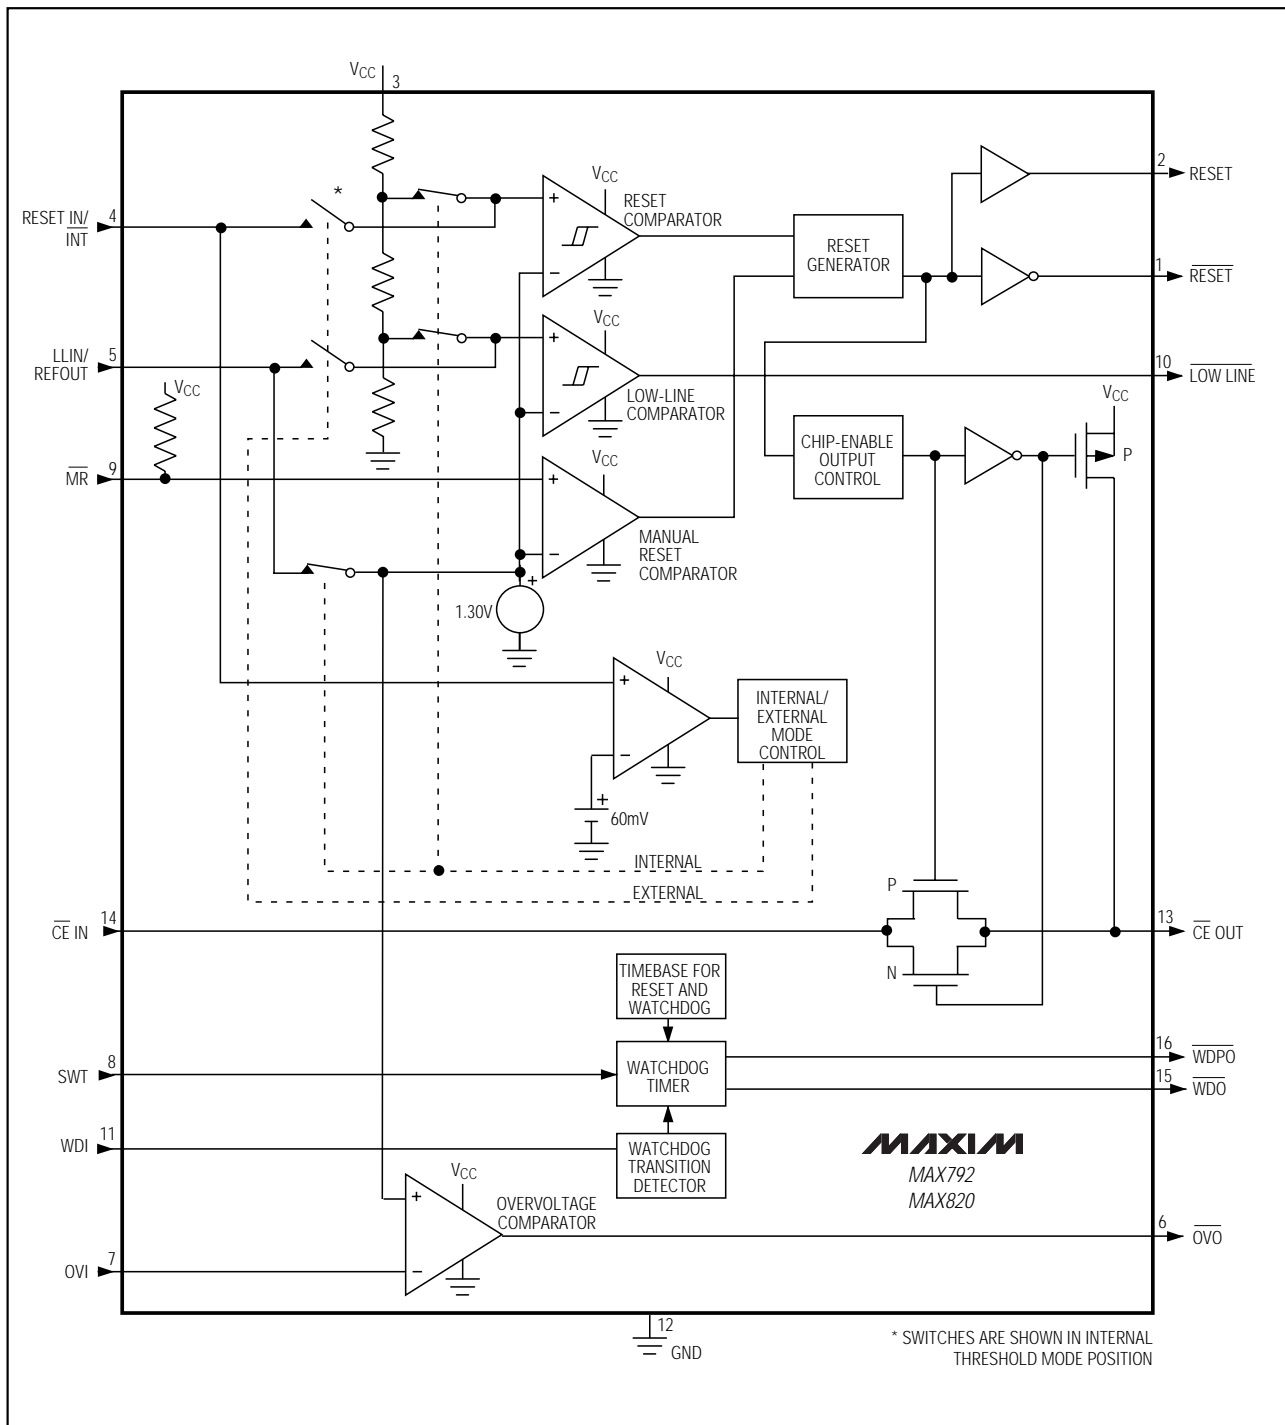
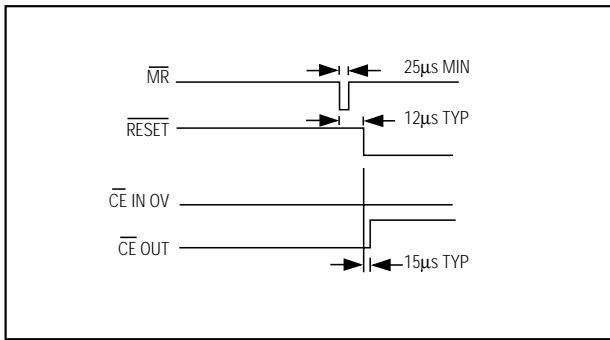
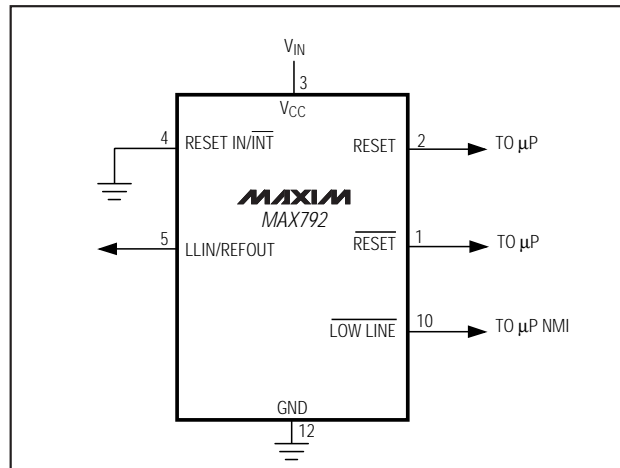
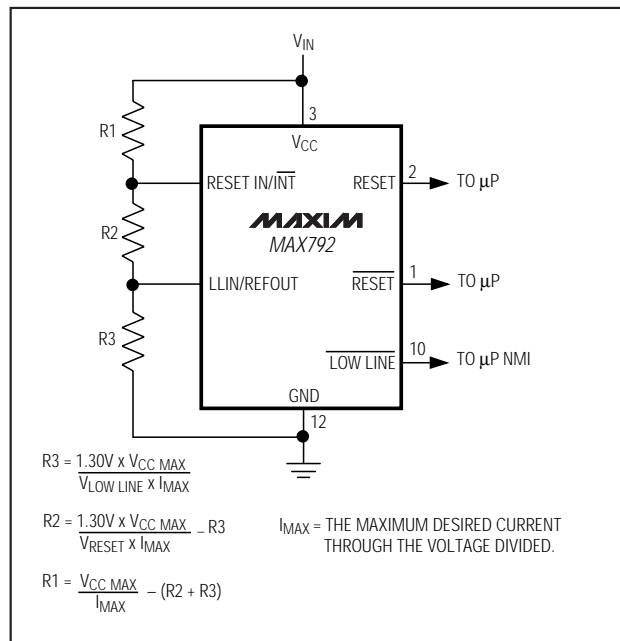

Figure 1. Block Diagram
Figure 2. Manual-Reset Timing Diagram
Figure 4a. Connection for Internal Threshold Mode
Figure 4b. Connection for External Threshold Programming Mode
Many μ P-based products require manual-reset capability, allowing the operator to initiate a reset. The manual/external-reset input ($\overline{\text{MR}}$) can connect directly to a switch without an external pull-up resistor or debouncing network. $\overline{\text{MR}}$ internally connects to a 1.30V comparator, and has a high-impedance pull-up to V_{CC} , as shown in Figure 1. The propagation delay from asserting $\overline{\text{MR}}$ to reset asserted is typically 12 μ s. Pulsing $\overline{\text{MR}}$ low for a minimum of 25 μ s asserts the reset function (see *Reset Function* section). The reset output remains active as long as $\overline{\text{MR}}$ is held low, and the reset timeout period begins after $\overline{\text{MR}}$ returns high (Figure 2). To provide extra noise immunity in high-noise environments, pull $\overline{\text{MR}}$ up to V_{CC} with a 100k Ω resistor.
Connecting the reset-input/internal-mode select pin ($\text{RESET IN}/\overline{\text{INT}}$) to ground selects internal threshold mode (Figure 4a). In this mode, the low-line and reset thresholds are factory preset by an internal voltage divider (Figure 1) to the threshold voltages specified in the *Electrical Characteristics* (Reset Threshold Voltage and Low-Line Threshold Voltage). Connect the low-line output (LOWLINE) to the μ P NMI pin, and connect the active-high reset output (RESET) or active-low reset output ($\overline{\text{RESET}}$) to the μ P reset input pin.
Connecting $\text{RESET IN}/\overline{\text{INT}}$ to a voltage above 600mV selects external programming mode. In this mode, the low-line and reset comparators disconnect from the internal voltage divider and connect to $\text{LLIN}/\text{REFOUT}$ and $\text{RESET IN}/\overline{\text{INT}}$, respectively (Figure 1). This mode allows flexibility in determining where in the operating voltage range the NMI and reset are generated. Set the low-line and reset thresholds with an external resistor divider, as in Figure 4b or Figure 4c. RESET typically remains valid for V_{CC} down to 2.5V; $\overline{\text{RESET}}$ is guaranteed to be valid with V_{CC} down to 1V.
Calculate the values for the resistor voltage divider in Figure 4b using the following equations:
The MAX792/MAX820 provide internal gating of chip-enable (CE) signals, which prevents erroneous data from corrupting CMOS RAM in the event of an under-voltage condition. The MAX792/MAX820 use a series transmission gate from $\overline{\text{CE}}$ IN to $\overline{\text{CE}}$ OUT (Figure 1).